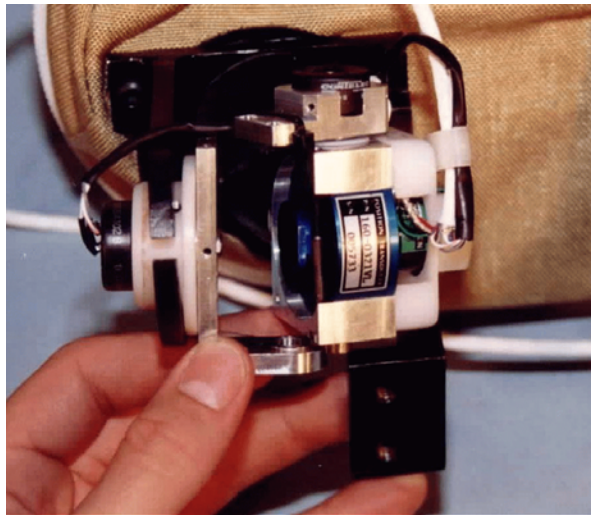

Figure 17.7- Insert telescope into access hole
6. Insert the Left DGSP telescope into the left access hole in the rear of the lower abdominal bag mounting plate, as shown in **Figure 17.7**.